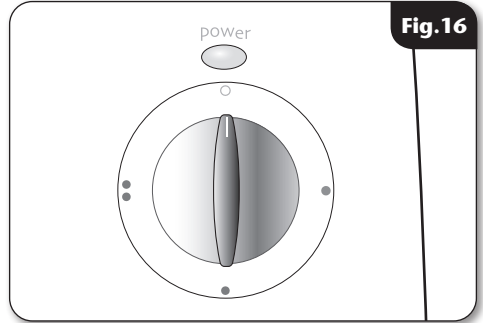

Fig.16
- Before turning on the electric and mains water supplies to the shower, make sure that the power selector is at the 'STOP' position (**fig.16**).